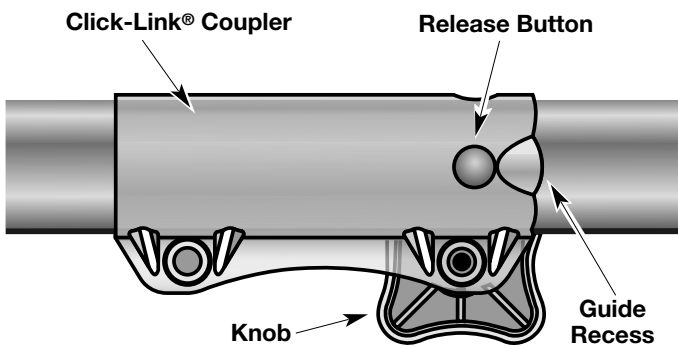

Fig. 7
1. Turn the knob counterclockwise to loosen (Fig. 7).